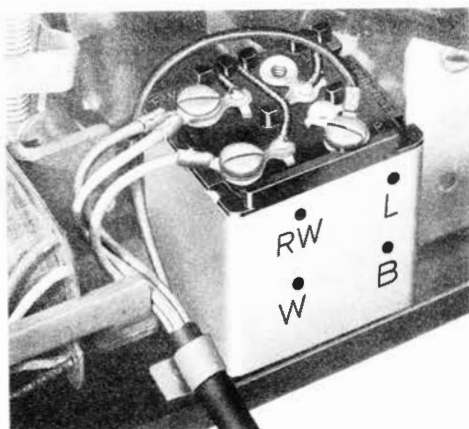
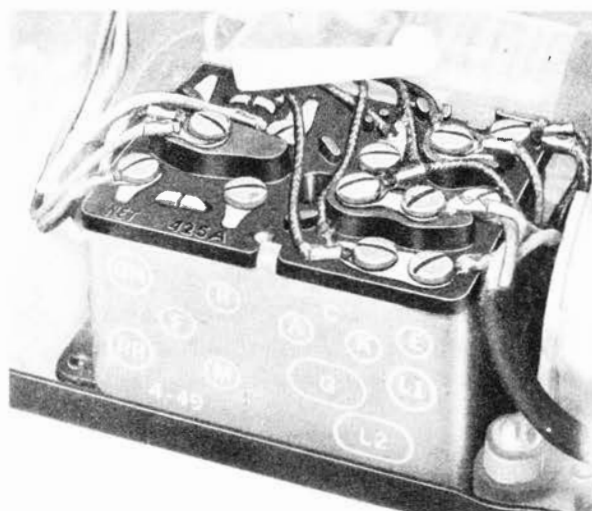

Fig. 1 — 311A Equalizer
Fig. 2 — 425A Network
- Sets coded 500A/B and 501A/B have 311A equalizers, Fig. 1, and 425A networks, Fig. 2.